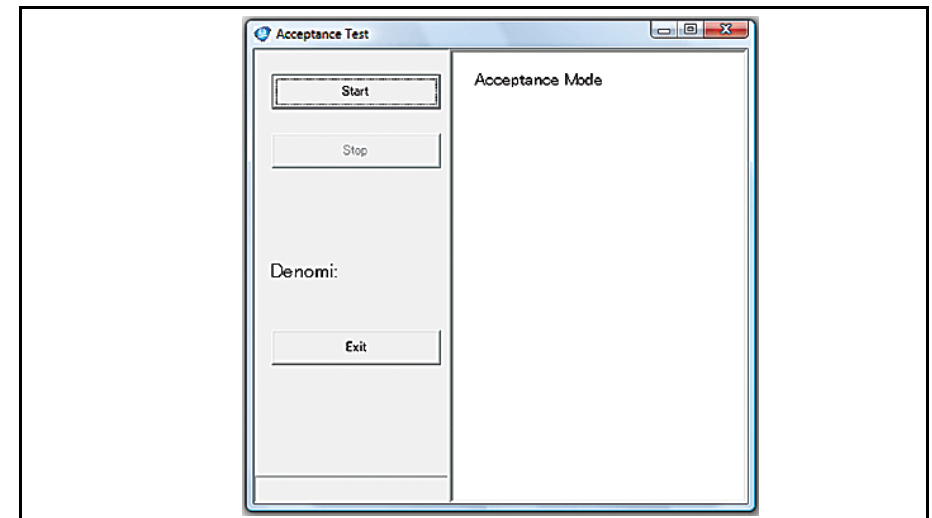

Figure 5 Typical Acceptance Test Screen
7. Select "Accept Test." The screen shown in Figure 5 will appear.